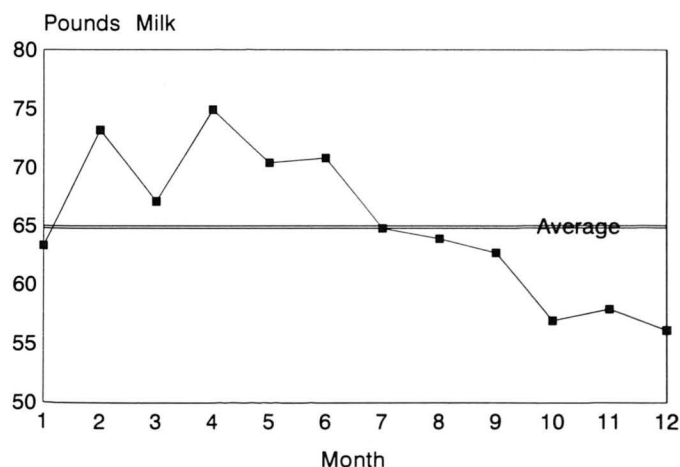

Figure 16. Average Milk Shipped / Milk cow / day S-V Farms: 1995.
1. Milk production and % fat and % protein from milk plant - See Figures 16 and 17.